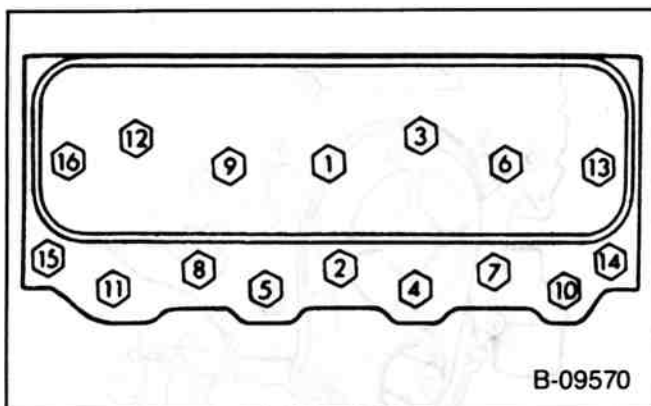

Figure 9—Cylinder Head Bolt Tightening Sequence
Install or Connect (Figure 9)
- Cylinder head bolts, a little at a time, using the sequence shown in figure 9. Proper torque is 130 N·m (95 ft. lbs.).